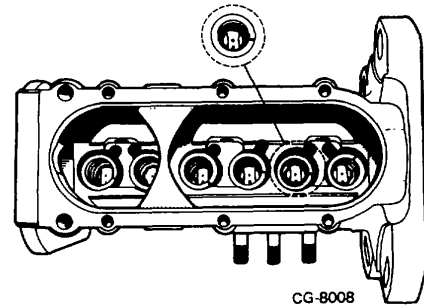

Figure 2.
6. Turn pump upside down. Install each plunger in correct barrel. Position the notch on the plunger foot so it points away from the rack, thus sealing the port (Figure 2)